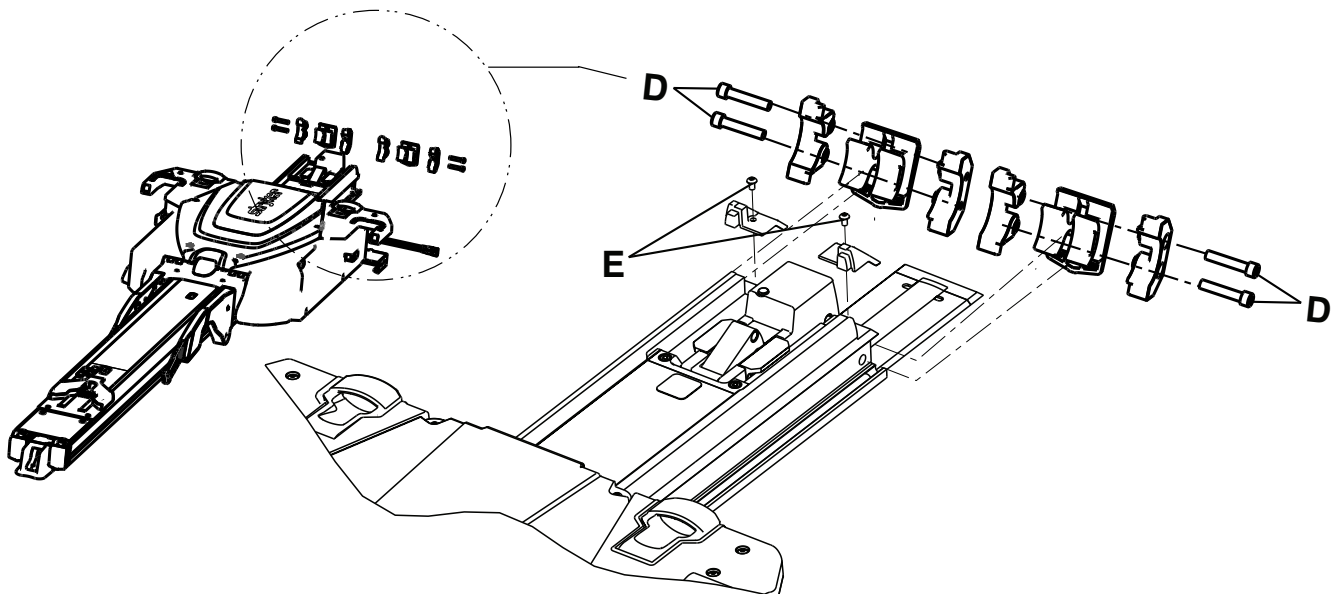

Figure 9 – Trolley screws
2. Press the trolley release button at the head end of the anchor (B).
4. Slide the patient right transfer lock trigger (C) to extend.
6. Using a T25 Torx driver, remove the two screws that secure the transfer trim (E) (Figure 9). Save the screws.